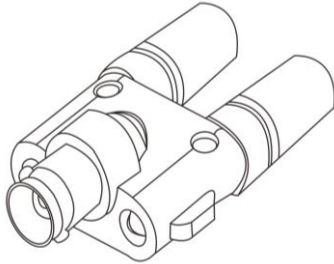

Figure 3 BNC-male-to-dual binding post
- ❖ Connects the probe output to BNC-female- to- dual binding post (as shown in Figure 3), and plug into the two inputs of the digital multimeter.